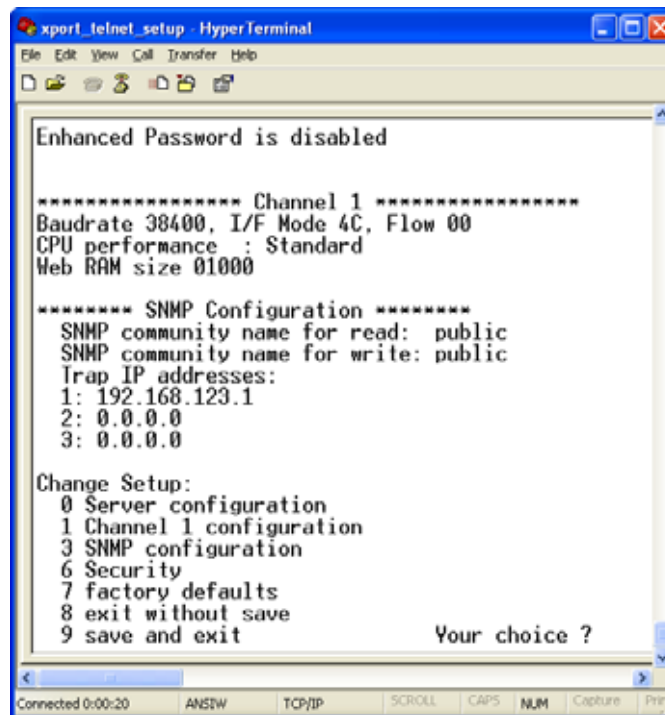

Figure 2-F: Device Server Configuration Menu
Once the *Telnet*® connection is established you will be prompted to “Press Enter for Setup Mode”. Press enter and a menu of device server configuration options will appear (see Figure 2-F: Device Server Configuration Menu.) Select menu item 3, “SNMP configuration.”